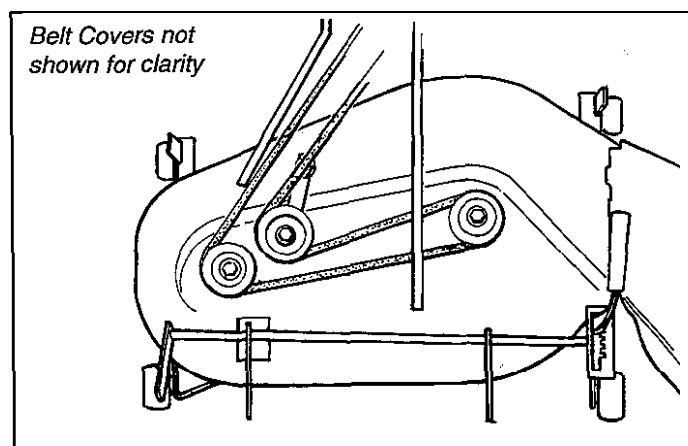

Figure 35. Mower Deck Belt Routing - 38" Deck
- Remove the old belt and install the new belt over the pulleys as shown in Figure 35.